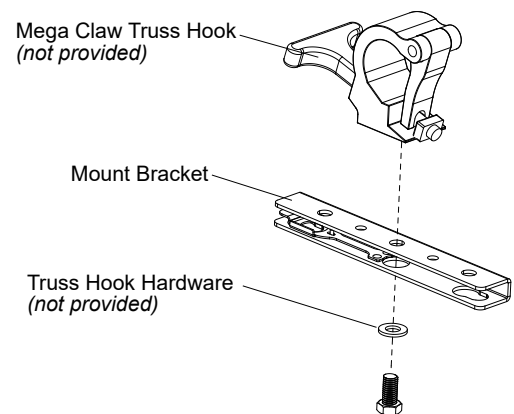

Figure 3: Truss Hook Installation
- Step 1. Install truss hooks on two provided truss hook brackets as required as shown in Figure 3.